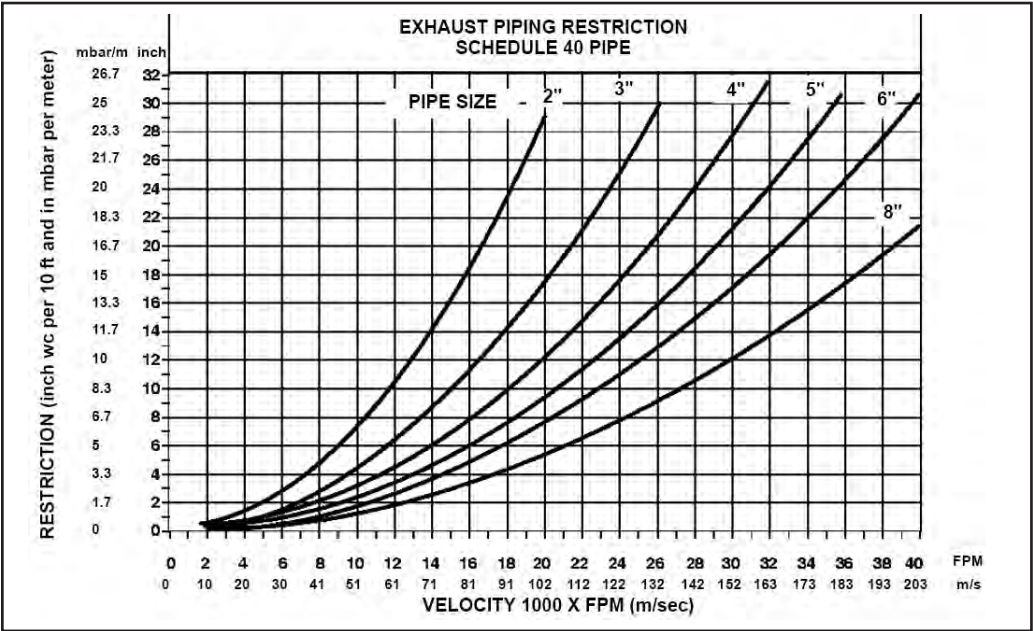

Figure A-8: Restriction vs. velocity for pipe diameter up to 8" (high speed)
3. Determine pressure loss (P_L) per 10 ft (3m) of pipe for each velocity and pipe size from “Figure A-8: Restriction vs. velocity for pipe diameter up to 8” (high speed)”, and “Figure A-9: Restriction vs. velocity for pipe diameter up to 24””.